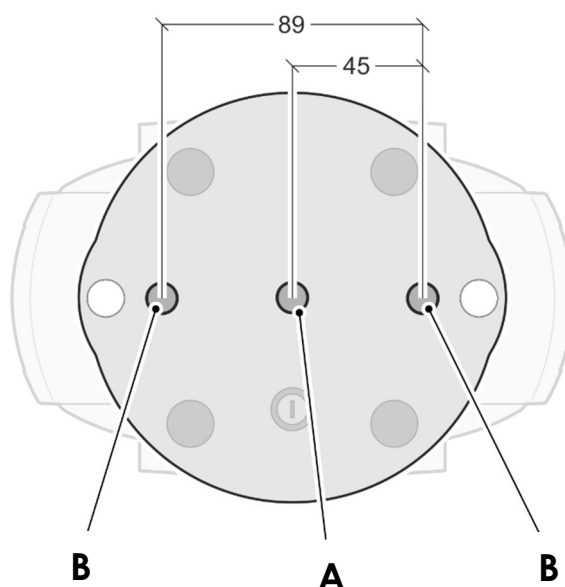

Figure 4. Mounting points in base
2. See Figure 4. Fasten the bolt through the rigging clamp into hole **A** in the center of the base of the fixture so that the rigging clamp is held securely. You can also install narrow half coupler clamps through holes **B**, but these extra clamps are not necessary.